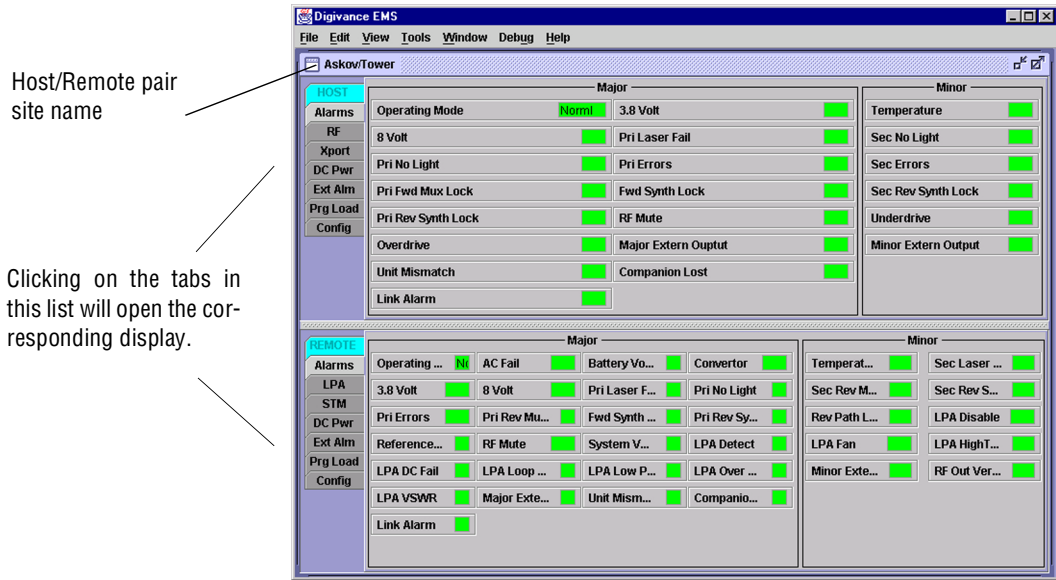

Figure 4-2. Selecting Display Tabs
- 9. Open the **View** drop down menu and connect to the Host and Remote pair by selecting “NotNamed/NotNamed”. The **HOST Alarms** display and the **REMOTE Alarms** display will open within the main window as shown in Figure 4-2.
11. Click on the **HOST Config** tab and on the **REMOTE Config** tab (see Figure 4-2). The **HOST Config** display and the **REMOTE Config** display will open within the main window.
15. Click on the **HOST RF** tab (see Figure 4-2). The **HOST RF** display will open within the main window.
20. Click on the **REMOTE LPA** tab (see Figure 4-2). The **REMOTE PA** display will open within the main window.
22. Click on the **HOST RF** tab (see Figure 4-2). The **HOST RF** display will open within the main window.